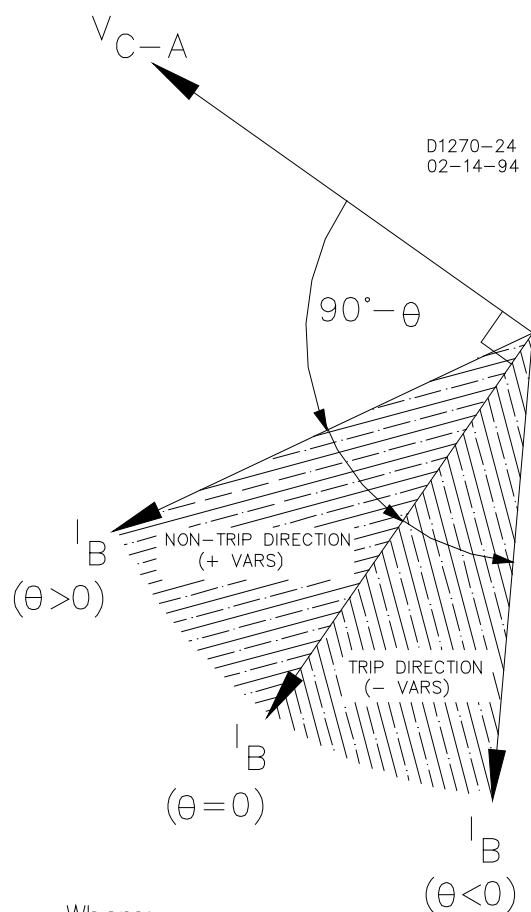

Figure 1-10. True Power Response
Figure 1-9A shows an underpower tripping application based on the BE1-32O/U, model A1F with an overpower setting of 0.5 watts and an underpower setting of 50%. The control circuit for this application is shown in Figure 1-9B. Figure 1-10 shows the operating characteristic in the first and second quadrant. The relay Under contact closes to trip the breaker when the real power flow from the utility drops below 0.25 watts. Because this contact is pre-closed at the instant of breaker closing, the trip circuit must be disabled by a timing relay (62) until after the breaker has closed.
BE1-32R and BE1-32O/U Directional Power Relays are designed to respond to true power (P) as defined by the following equation and illustrated in Figure 1-10.